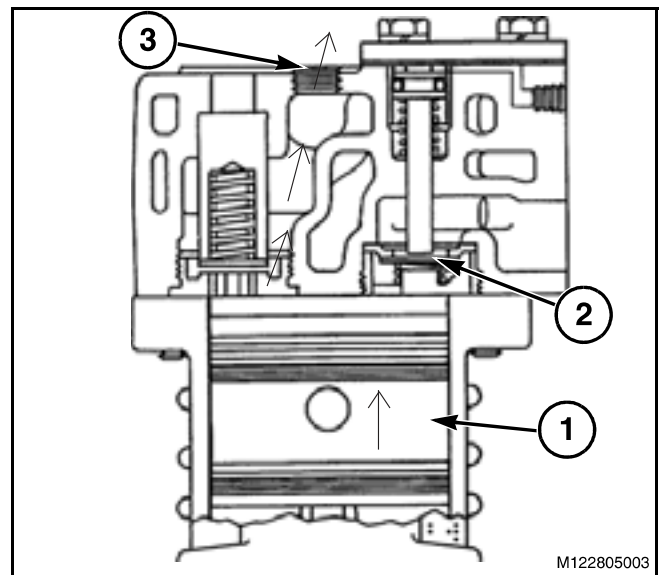

FIG. 3
FIG. 3: As the piston (1) begins its upward stroke, the air that was drawn into the cylinder on the down stroke is being compressed. Air pressure on the inlet valve (2) plus the force of the inlet spring, returns the inlet valve to its seat and closes. The piston continues the upward stroke and compressed air pushes the discharge valve (3) off its seat and air flows by the open discharge valve, into the discharge line and to the reservoirs. As the piston reaches the top of its stroke and starts down, the discharge valve spring and air pressure in the discharge line returns the discharge valve to its seat. This prevents the compressed air in the discharge line from returning to the cylinder bore as the intake and compression cycle is repeated.